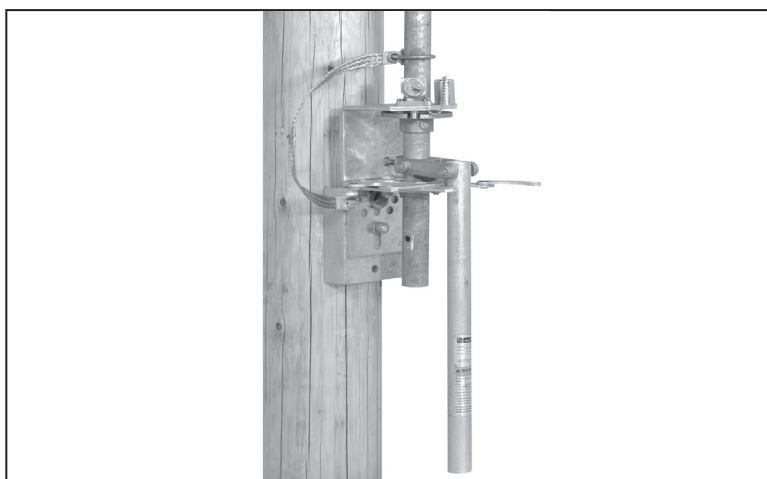

Figure 29. Disengage the key interlock bolt.
- (b) If the operating handle assembly is furnished with a key interlock, disengage the interlock bolt. See Figure 29.